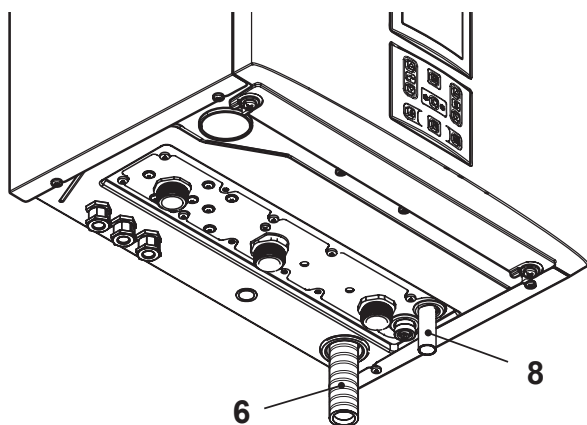

Fig. 6.4
- Connect the pipe 8 (Fig. 6.4) from the pressure relief valve to the safety discharge pipework.
- Fit the condensate drain 6 (Fig. 6.4) in to the drainage pipework.